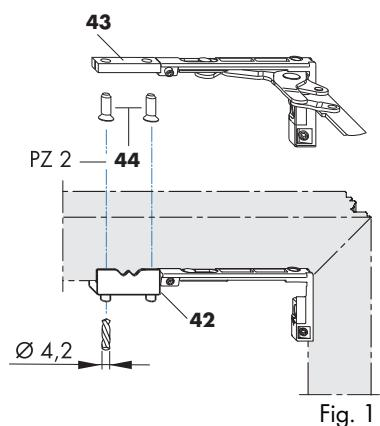

Fig. 1
1. Insert the BS axxent 130 jig kg (42) on loosened stay, as shown in the adjacent diagram (fig. 1).
2. Drill holes Ø 4.2 for mounting bracket BSO A0040 (43).
3. Insert the BSO A0040 supporting piece (43) into the frame groove, position it on the stay and fix it in place with M5 x 13 countersunk screws (44).
4. Tighten the M5x13 countersunk screws (44) with a torque of 2.5 ± 0.25 Nm.